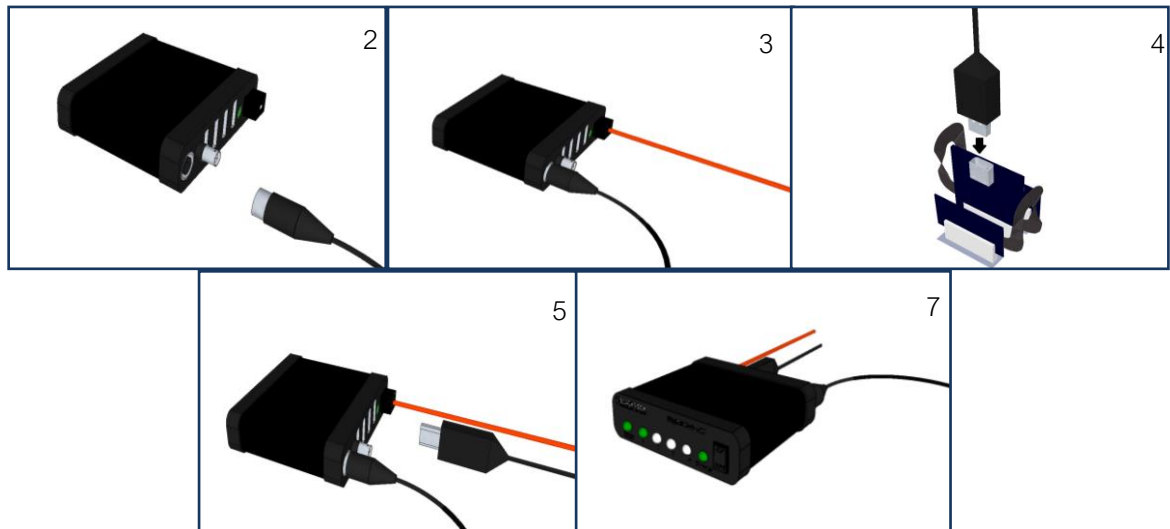

Figure 4: Instruction for Assembly
1. The following instructions are for the Digital Hub which can support up to 128 channels of data. Assembly illustrations are shown in Figure 4.